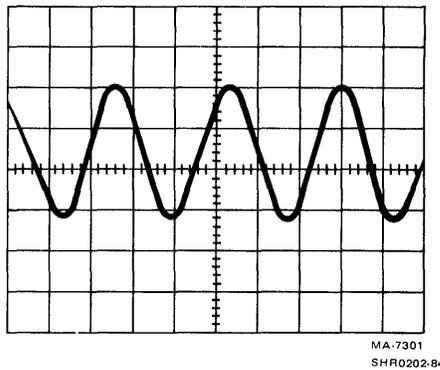

Figure 5-16 Normal Read Head Output While Writing
- i. Look at the compensation capacitors again; this time while writing (MIA switch S2 right). You should see a sinusoidal waveform similar to the one shown in Figure 5-16.